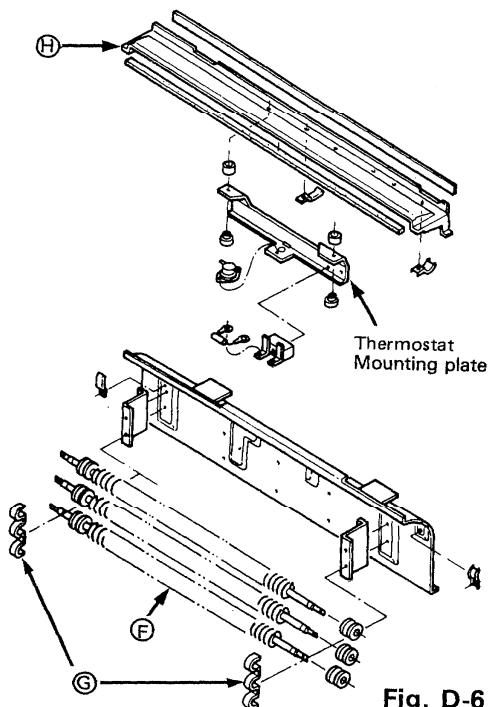

Fig. D-6
- 2) Remove the thermostat mounting plate after removing the screws at the right and the left. Fig.D-6.
- 2) Remove the wiring connection screws on both sides of the heater (F).
- 3) Remove the screws of the heater mounting plate (G), and separate the installation fittings from the heater. Fig. D-6